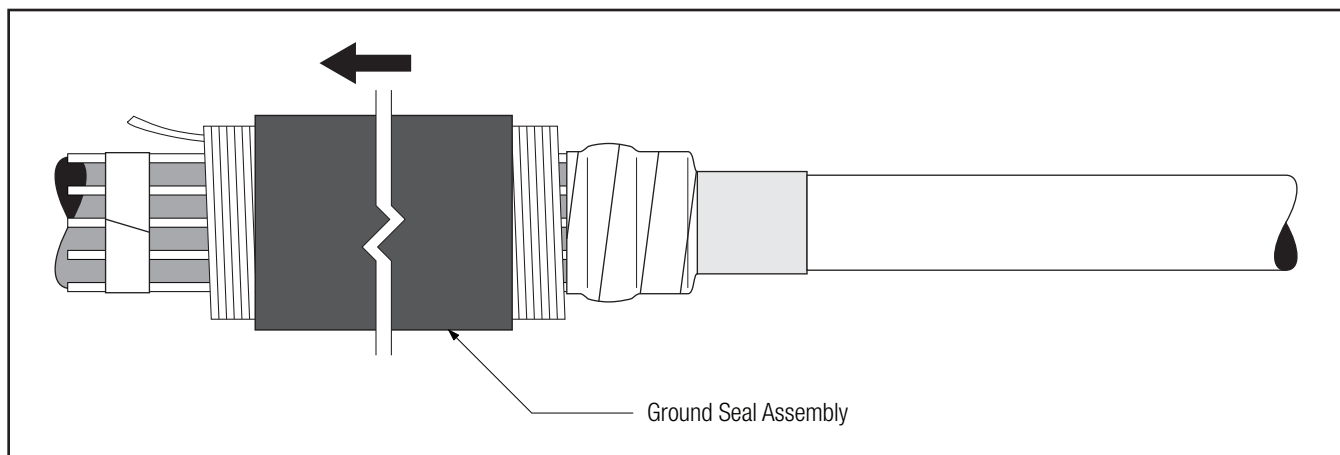

Figure 5
- 3.1 Slide the ground seal assembly onto the cable jacket, loose core end first. (Figure 5)